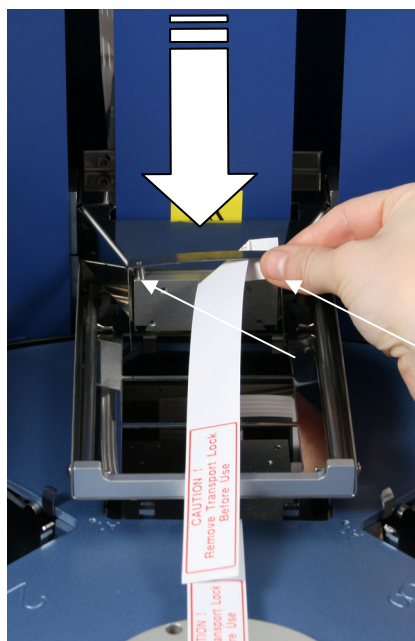
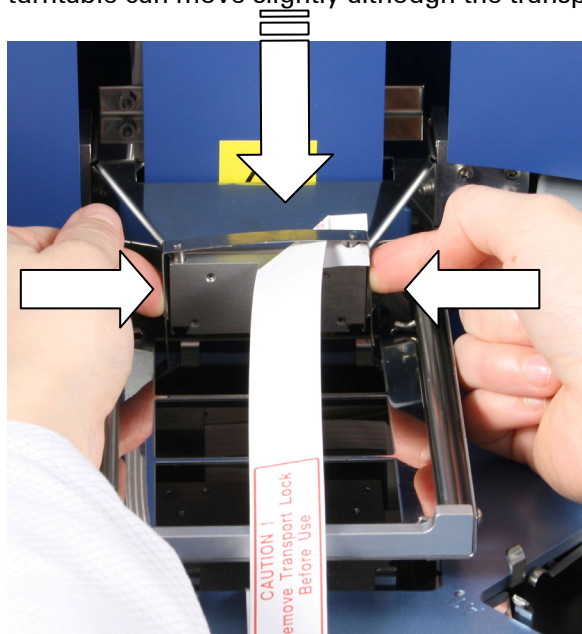
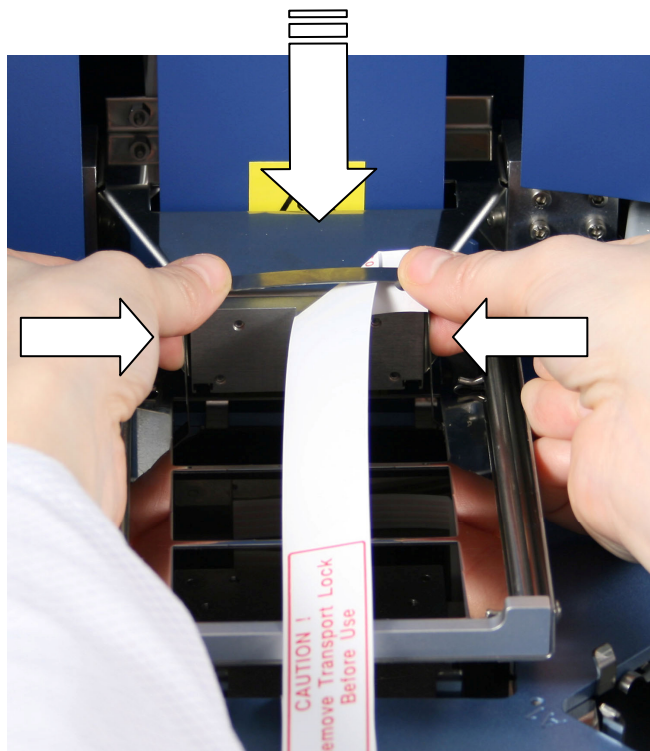

Fig. 5.23 Fitting the transport lock of the tip comb holder (A)
Fig. 5.24 Fitting the transport lock of the tip comb holder (B)
Fig. 5.25 Fitting the transport lock of the tip comb holder (C)
1. The transport lock of the tip comb holder is refitted according to Fig. 5.23 through Fig. 5.25. Press the transport lock from both sides and insert the two eccentric pins back into place into their respective holes (Fig. 5.23).
2. Press the tip comb holder transport lock ends together with both hands and insert (Fig. 5.24) all the way down to lock position (Fig. 5.25). Note that the turntable can move slightly although the transport lock is fitted.